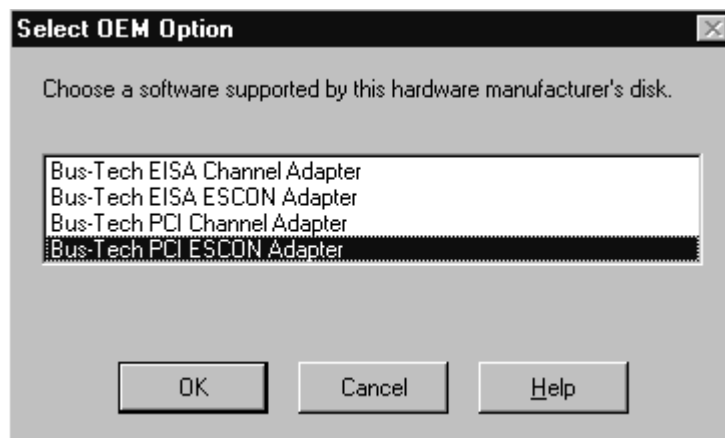

Figure 3-9. Select OEM Option Screen
5. The **Select OEM Option** dialog box will be displayed (Figure 3-9). Highlight/select the Bus-Tech PCI ESCON Adapter and click **OK**.